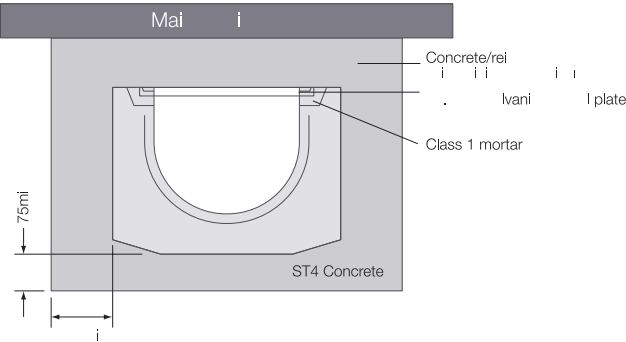
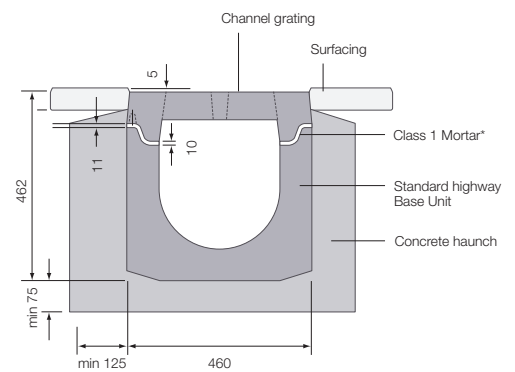

Fig 1. Highway crossing – base unit
Fig 6. Channel grating/concrete drainage top
- Use crossing base units to carry drainage runs under side roads/vehicular crossing points (see Fig 1) Grid units available (see Fig 6).